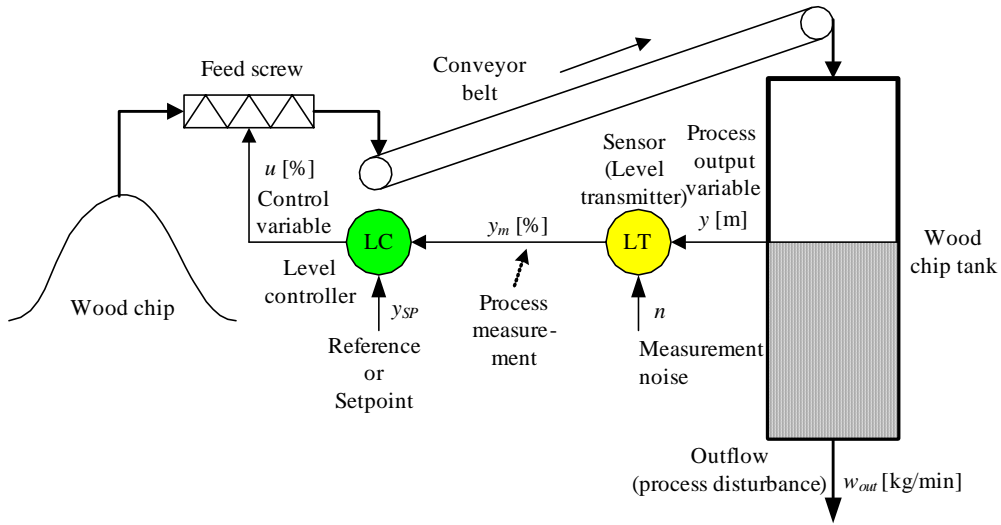

Figure 2:
2. (10%) Figure 2 shows a P&I Diagram of the level control system of a wood-chip tank. The control systems works as follows: Assume that